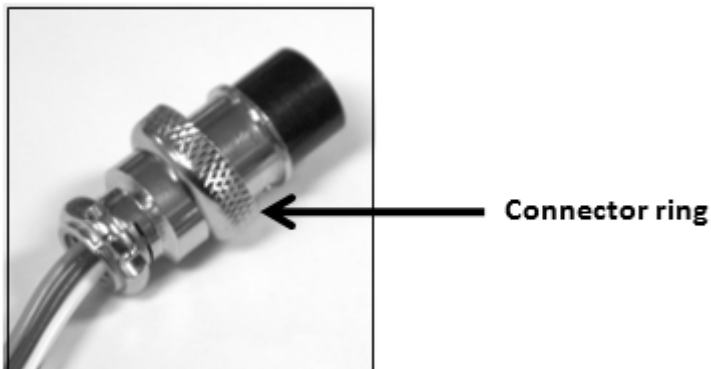

Figure 5 - Connector Ring
- (e) Secure the remote connector plug to the terminal socket by screwing in the connector ring (Figure 5).